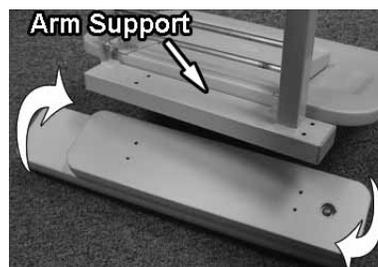

FIG. 5
3. After (4) **wood screws** are removed; Rotate **Pivot Arm assembly** 180 degrees (**FIG. 5**); Re-install (4) **wood screws** to secure arm in the new position.